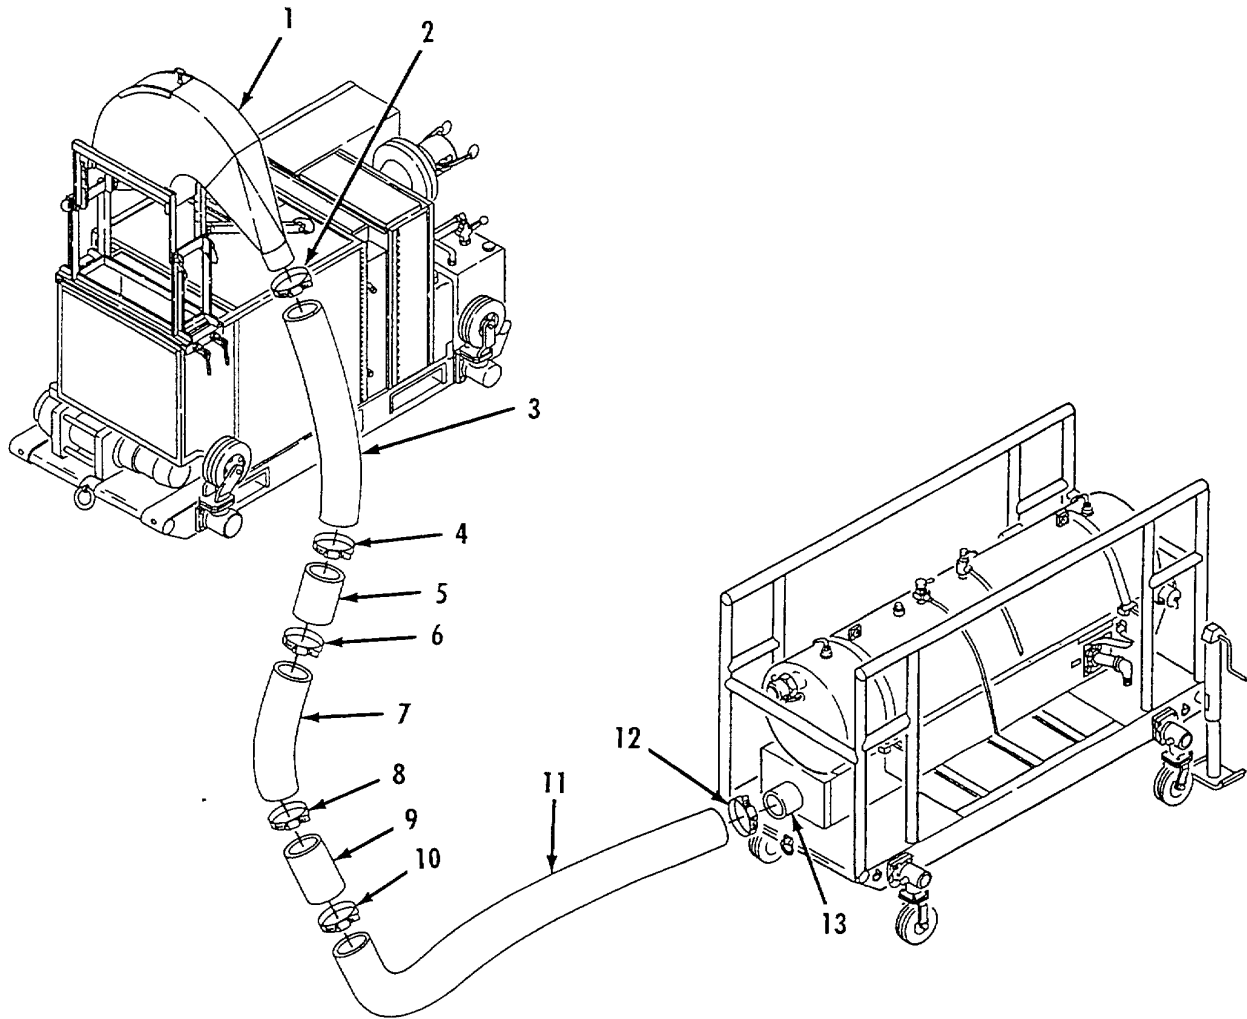

Figure 2-13. Air Duct Installation.
- (1) Lower locator arms (1) on lower frame (2) to unlock position.
- (2) Center lower frame (2) over exhaust extension (3) on 200 GPM pump.
- (3) Position brace (4) on lower frame (2) and install pin (5).
- (4) Aline other end of brace (4) with mount (6) on 200 GPM pump and install pin (7).
- (5) Repeat steps (3) and (4) for other brace (8).
- (6) When lower frame (2) is correctly positioned, raise both locator arms (1) to lock position.
- (7) Position upper frame (9) and attach deflector (10) on lower frame (2).
- (8) Allne mounting holes in upper frame (9) with holes in lower frame (2), then secure in place with four pins (11).
- f. Install Air Ducts. Refer to figure 2-13.